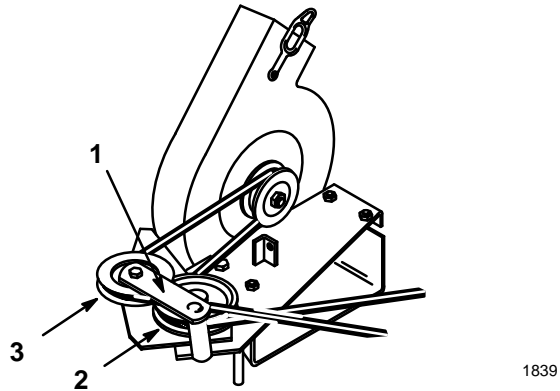

Figure 32
1. Open latch and swing the blower out away from the mower, remove the blower belt from idler and blower pulleys (Fig. 32).